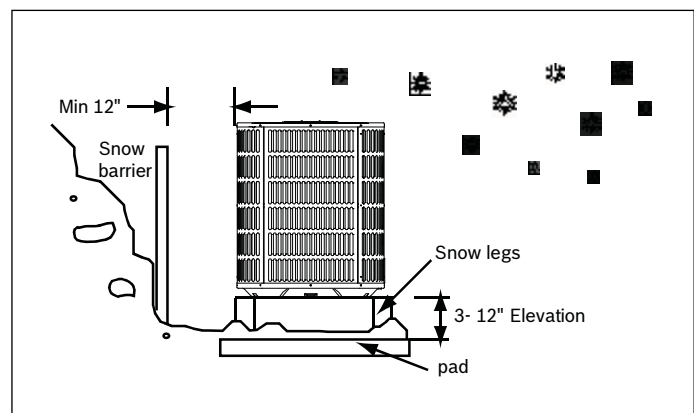

Figure 5
- ▶ Units should be elevated 3-12 inches above the pad or rooftop, depending on local weather. This additional height will allow drainage of snow and ice melted during defrost cycle prior to its refreezing. Ensure that drain holes in unit base pan are not obstructed, preventing drainage of defrost water (Fig. 5).